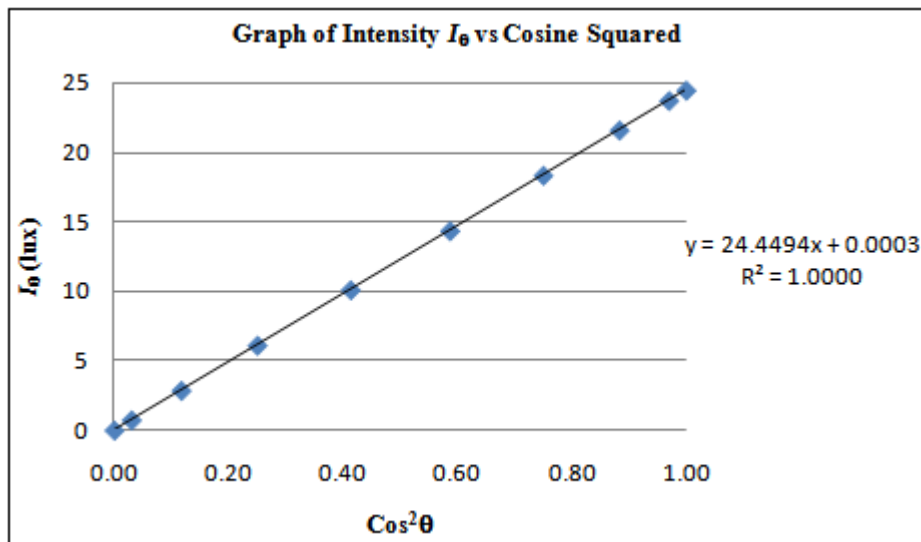

Figure 10. Graph of intensity I_θ vs $\cos^2\theta$.
- From Equation (2), and $Y = mx + b$, we see that $x = \cos^2\theta$ is linear with respect to $Y = I_\theta$. In Equation (2), the intercept b is zero. **In Excel, do a graph of I_θ vs $\cos^2\theta$. Your Excel graph should reflect the one in Figure 10 below.**
9. **For your lab report**, you are required to use 2D stats in Excel to perform a linear regression analysis to find the slope, intercept and coefficient of determination (R^2) for I_θ vs $\cos^2\theta$ data as in Figure 10. Note in Figure 10 that the intercept approaches the value of zero as reflected in Equation (2).
5. Use Equation (2), with $I_0 = 24.45$ lux (Figure 10) to calculate I_θ at 30° . **Ignore the intercept value b in Figure 10 as it is very close to zero.**